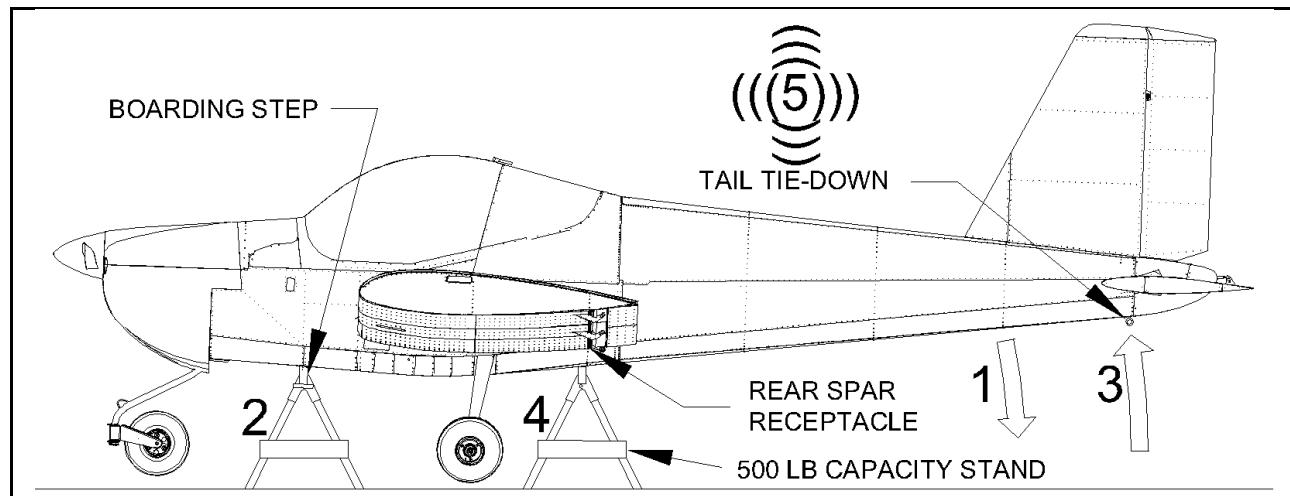

Figure 3: Lifting and supporting
- **NOTE: STEPS 1 THROUGH 5 CORRESPOND TO THE NUMBERS IN FIGURE 3.**